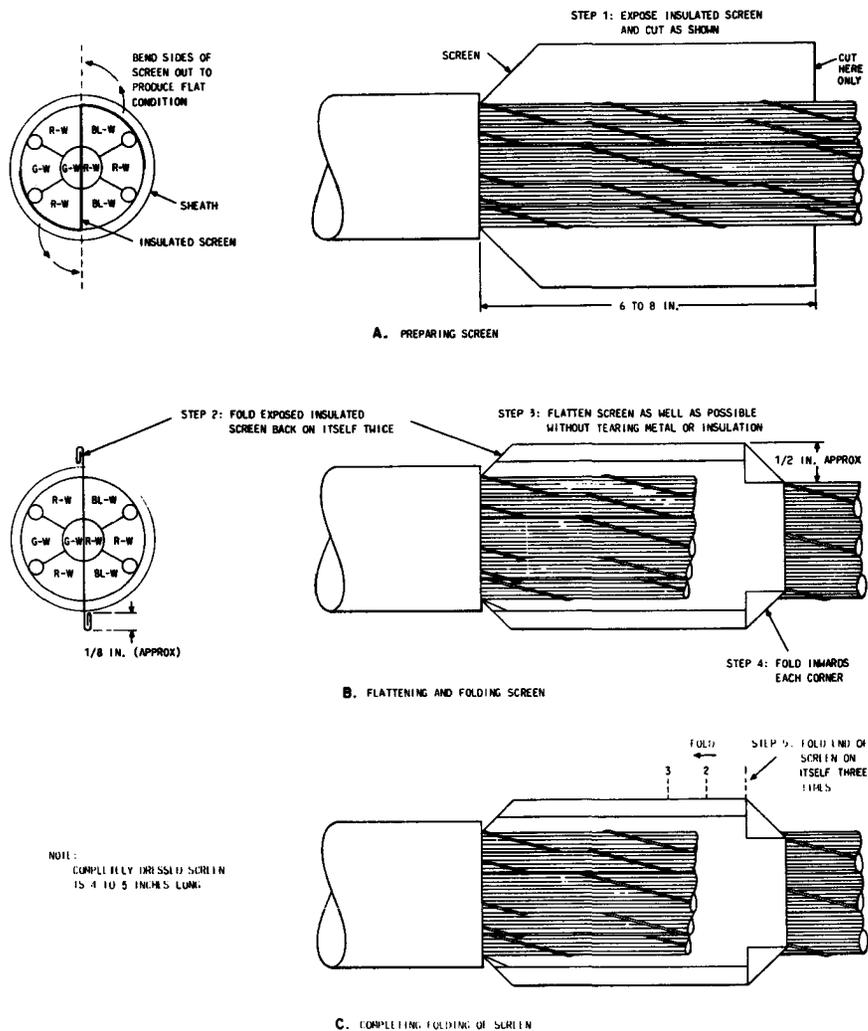

Fig. 1—Treatment of Screen at Splices
4.02 After removing the sheath and preparing the butts for the type of closure to be used, proceed as shown in Fig. 1.
4.16 **Restoring Screen at Splice Enclosed with 16E2 Closure:** When splicing waterproof cable for this closure, the splice is supported by the splicing tray as it is being built. After cutting and folding back the screen (Fig. 1), use the instructions supplied with the closure to set up the cables to be spliced and proceed as follows: